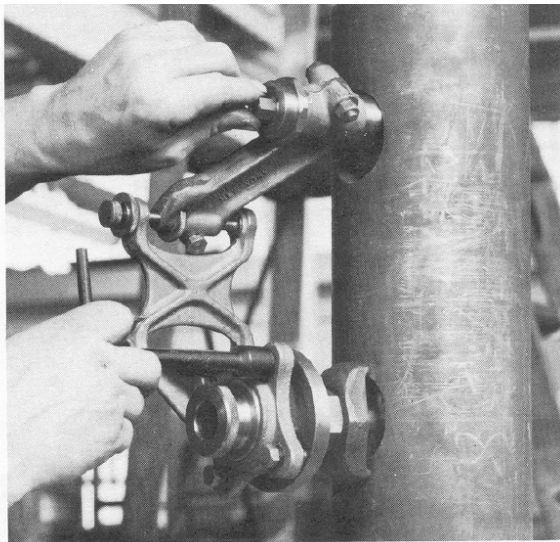

Fig. 3—Leveling.
5. While turning the drive nut with he fingers, turn the adjusting lock nut counter-clockwise until the grinding wheel contacts the gasket face lightly. See Fig 3 for this operation.
6. Turn the adjusting screws, with the T-handle wrench, while twirling the drive nut, until the wheel contact is uniform around the entire seat. See Fig 3.